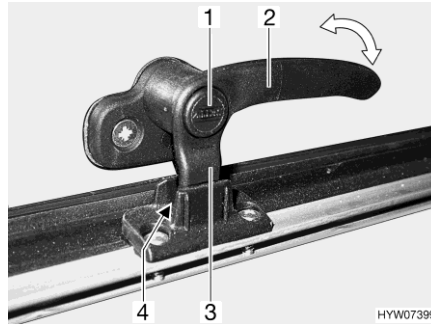

Fig. 40 Catch lever ("continuous ventilation" position)
- "Continuous ventilation" (Fig. 40)
- Press the safety knob (Fig. 40,1) and keep it pressed.
- Turn the catch lever (Fig. 40,3) a quarter turn towards the centre of the window.
- Return the catch lever to its initial position. Move the locking catch (Fig. 40,3) on the catch lever into the recess of the window catch (Fig. 40,4).
- Release the safety knob (Fig. 40,1).